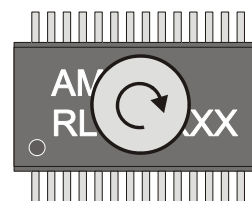

Fig. 3: CW rotation of the magnet
The arrow in Figure 3 shows clockwise (CW) rotation of the magnet. The picture is a top view of the magnet placed above the AM256L. CCW is counter clockwise rotation.